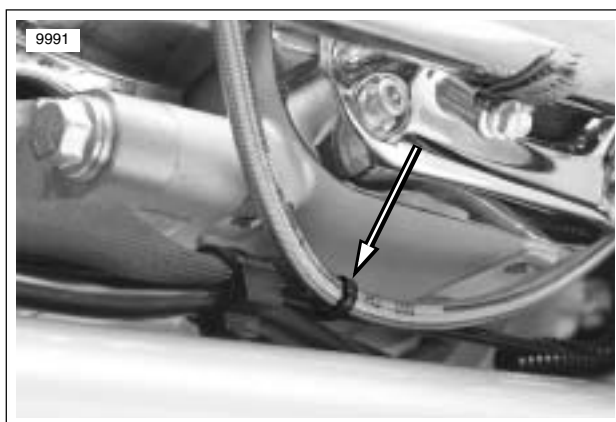

Figure 2-26. Cable Wrap Location around Brake Line
10. See Figure 2-26. Route new clutch fluid line back through fairing retracing path of old.
12. See Figure 2-26. Loosen clamps and cut cable ties around old clutch fluid line along right side frame down tube and behind cam cover around the rear brake line in front of the clamp.
- b. See Figure 2-26. Route line around top of steering head and back out to P-clamp used for throttle cables.
- f. See Figure 2-26. Line is cable wrapped along rear brake line just in front of main wire harness conduit.
3. See Figure 2-26. Install clamps to retain clutch fluid line at two locations on right frame downtube.